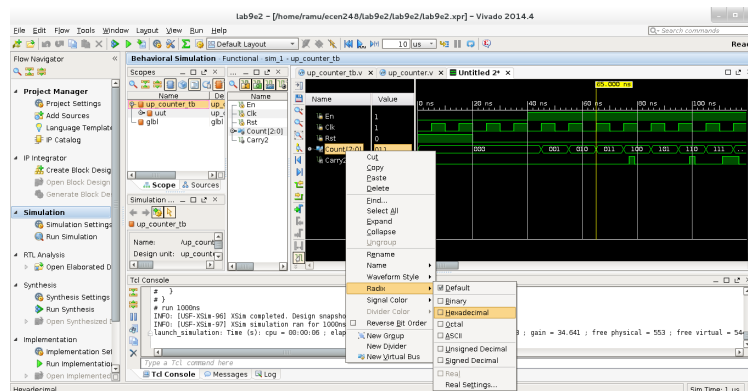

Figure 8: Change Radix to Hexadecimal
- (e) From within the waveform window, right-click on 'Count' and select *Radix* → *Hexadecimal* to change the display format of the 'Count' bus to hexadecimal. See Figure 8.